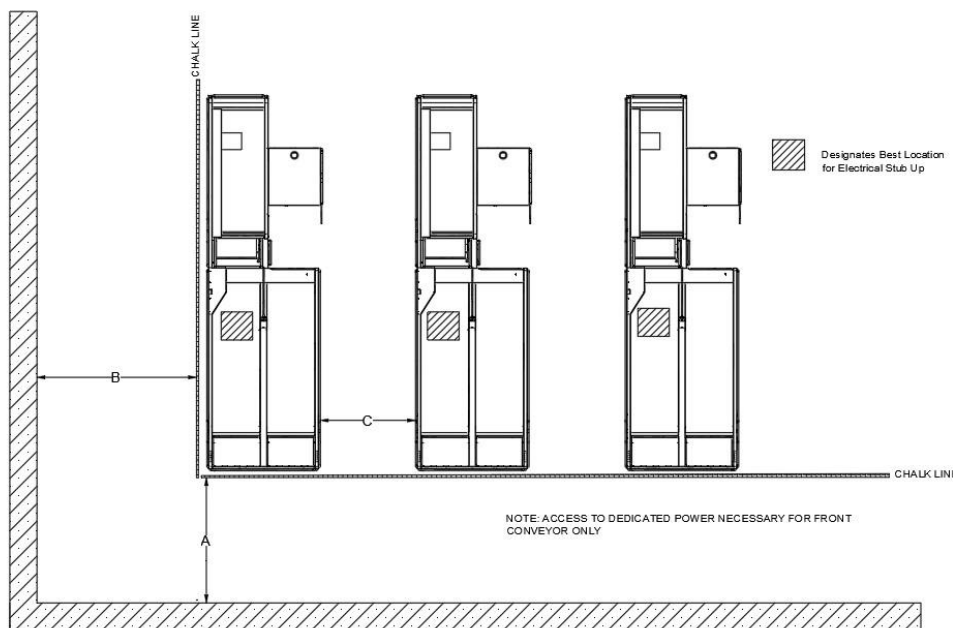

FIGURE 2
- 1 From floor plan determine distances (A&B) from left rear corner of rear cabinet of 1st check stand to walls at left and rear. Mark floor with magic marker. Repeat process for right rear corner of rear cabinet of last check stand in run. Make chalk lines between marks (See FIGURE 2)
- 2 Without attaching components, move rear cabinet, front conveyor and cash stand into position as shown in FIGURE 2. Adjustable scanner filler angle is shipped installed in reverse position. Remove and install in correct position. Align front and rear cabinet on chalk line.
- 3 Repeat process for 2ND counter. Verify that correct aisle width (C) is maintained and that spacing to adjacent wall is correct.